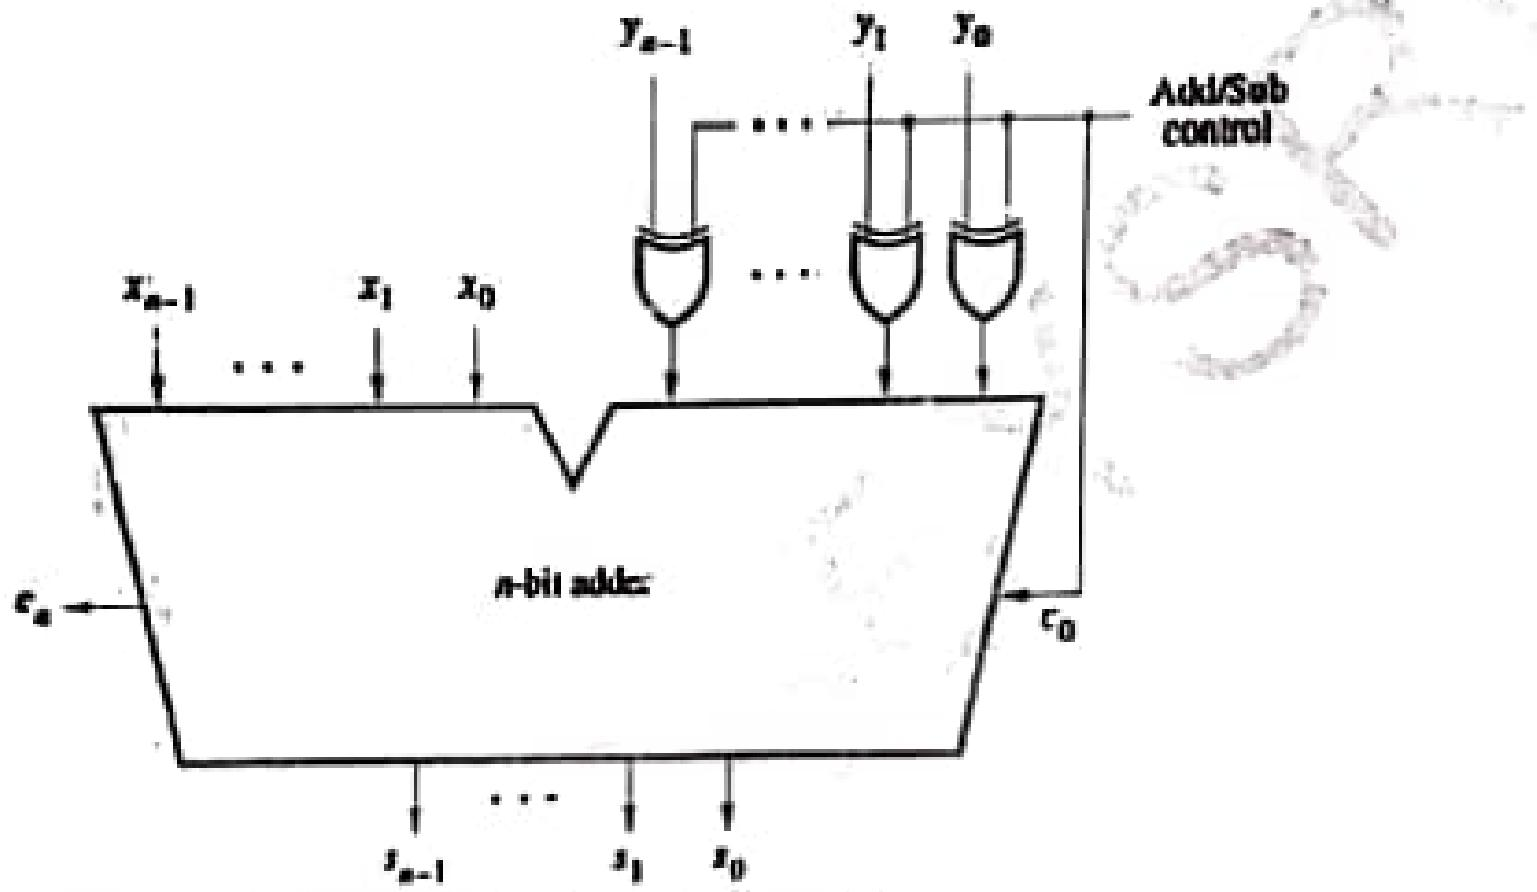

Figure 9.3 Binary addition/subtraction logic circuit.
- The n-bit adder can be used to add 2's complement numbers X and Y (Figure 9.3).